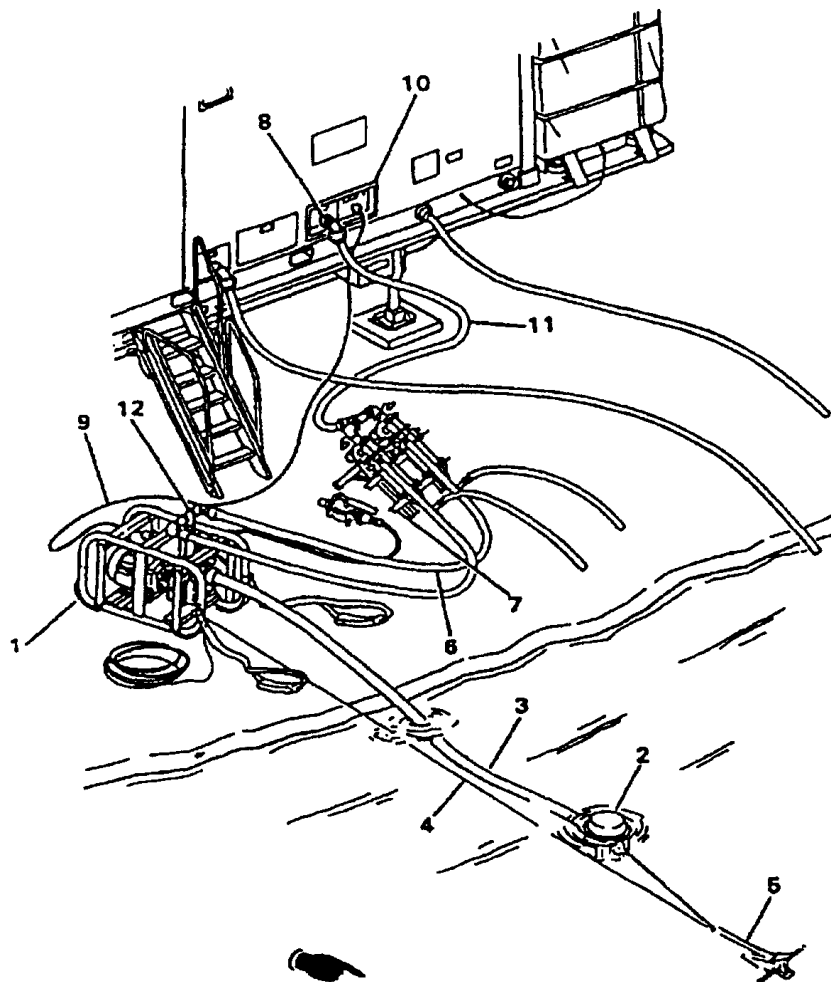

Figure 2-27. Deployed Raw Water Intake System (Sheet 1 of 2)
- (2) Carry intake strainer (2, Figure 2-27), raw water suction hose sections (3), anchor tie down rope (4), and anchor (5), to raw water pump location.